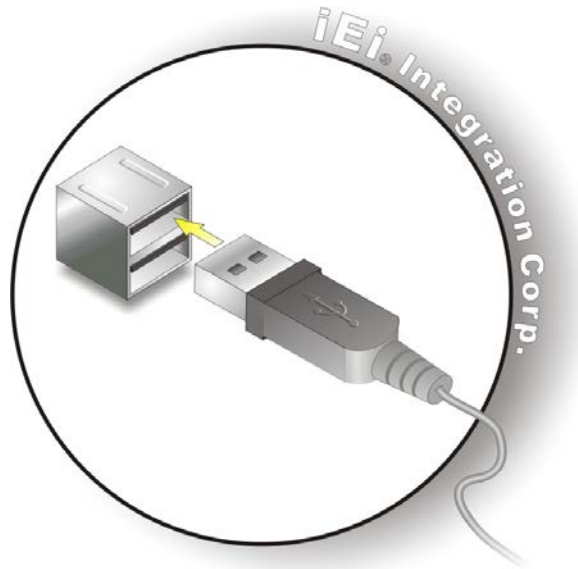

Figure 4-26: USB Device Connection
Step 2: **Align the connectors.** Align the USB device connector with one of the connectors on the bottom panel. See **Figure 4-26**.